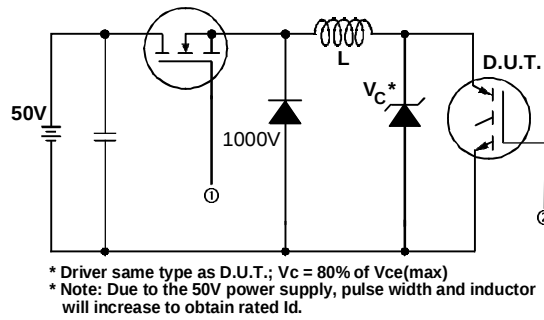

Fig. 13a - Clamped Inductive Load Test Circuit
- ② $V_{CC} = 80\%(V_{CES}), V_{GE} = 20V, L = 10\mu H, R_G = 5.0\Omega$, (See fig. 13a).
- ③ Repetitive rating; pulse width limited by maximum junction temperature.
- ④ Pulse width $\leq 2.5ms$; duty factor $\leq 0.1\%$.
- ⑤ Pulse width $5.0\mu s$, single shot.